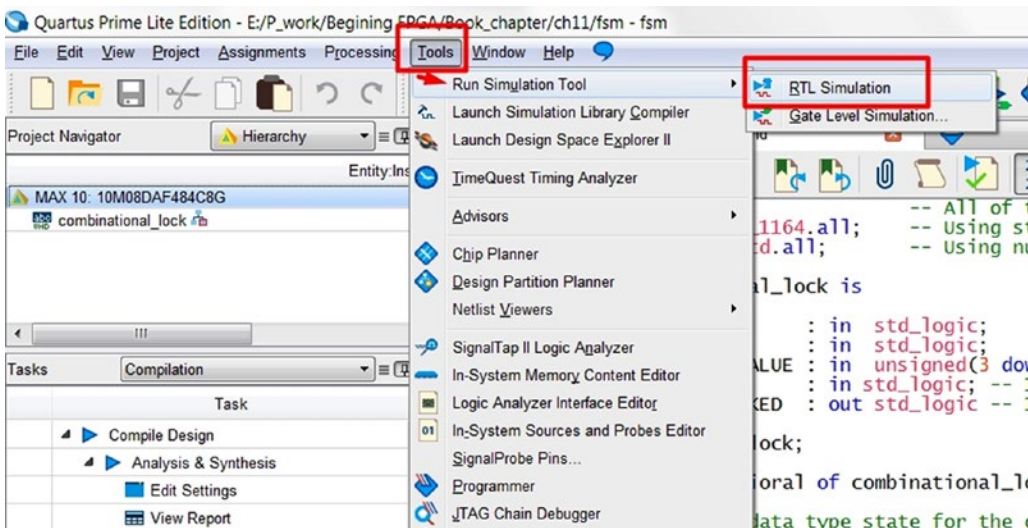

Figure 11-12. Set ModelSim-Altera as simulation tool in Quartus
2. Click Tools ► Run Simulation Tool ► RTL Simulation (Figure 11-12)